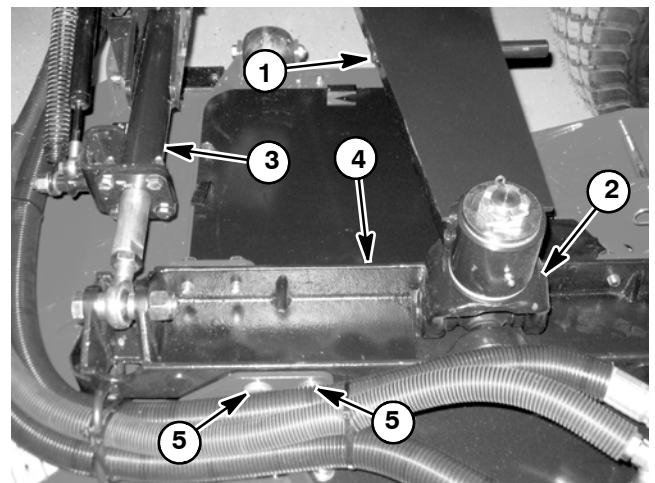

Figure 14
2. Remove cap screw (item 19) and lock nut (item 20) that secures rod end of rear arm assembly to cutting deck. Locate and remove spacer (item 18) from each side of rod end.
3. Remove eight (8) cap screws, lock washers and flat washers that secure deck mount to cutting deck (Fig. 14).
4. Remove cotter pin from joint yoke shaft. Make sure that deck mount is supported and remove slotted hex nut that secures joint yoke to lift arm. Take hardened washer (item 12) and thrust washers (items 21 and 11) from joint yoke shaft. Slowly raise lift arm enough to free joint yoke from lift arm. Remove thrust washer (item 11) and spacer (item 10) from yoke shaft.
2. Secure deck mount to deck with eight (8) cap screws, lock washers and flat washers (Fig. 14).
3. Place spacer washer (chamfered ID side down) and then thrust washer (item 11) onto joint yoke shaft. Insert yoke shaft up through lift arm bushings. Place additional thrust washers (items 11 and 21) and then hardened washer (item 12) on yoke shaft and secure with slotted hex nut. Torque nut from **150 to 180 ft-lb (203 to 244 N-m)** while aligning hole in shaft with slot in nut. Install cotter pin.